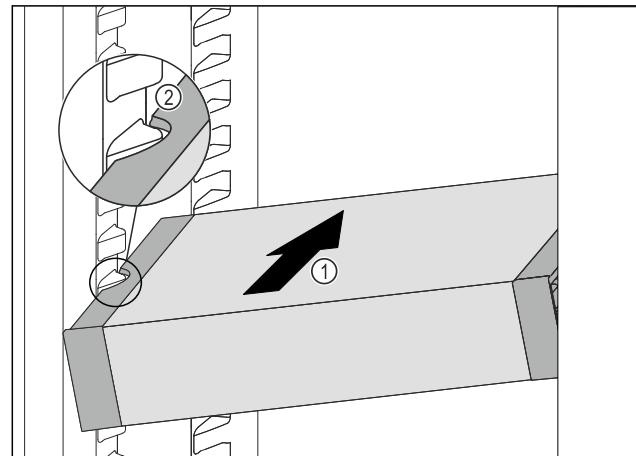

Fig. 84
- ▶ Insert the VarioSafe into the fridge section at an angle Fig. 84 (1) until the recesses in the side Fig. 84 (2) of the VarioSafe are at the level of the support rib in the fridge section.